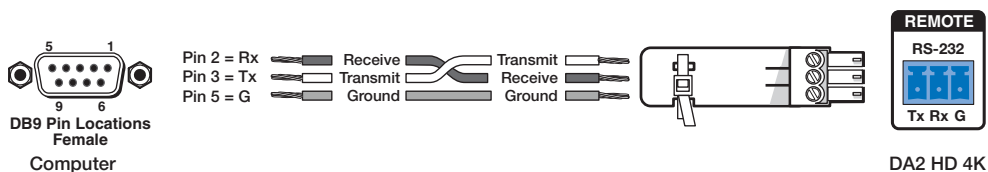

Figure 3. Wiring for Rear Panel RS-232 Control
1. Connect an RS-232 cable with a female 9-pin D connector to the computer (see figure 3 above):
2. Wire the opposite end of the cable to the provided 3-pole captive screw plug (see figure 3 above):